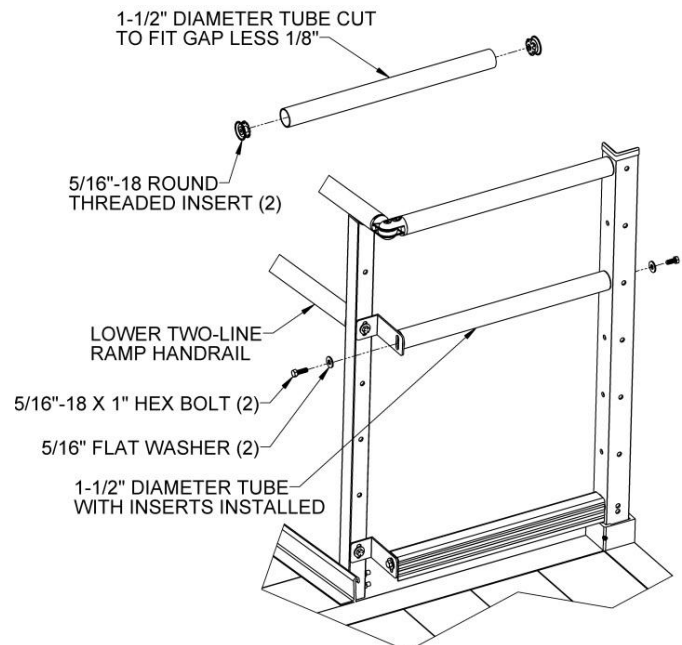

FIG. 5.12
- 5.5.3. Cut the 1 1/2" diameter round tube to the measured gap length less 1/8" to account for the threaded inserts which will be installed after cutting (FIG. 5.12).
- 5.5.5. Install 5/16"-18 round threaded inserts into both ends of the cut tube. Use a rubber mallet or similar tool to fully seat the threaded inserts (FIG. 5.12).
- 5.5.6. Install 5/16"-18 x 1" hex bolts through a 5/16" flat washers and the slot in the long leg of the closure bracket and the third hole from the top of the platform post into the threaded inserts installed in the previous step then tighten all fasteners securely (FIG. 5.12).